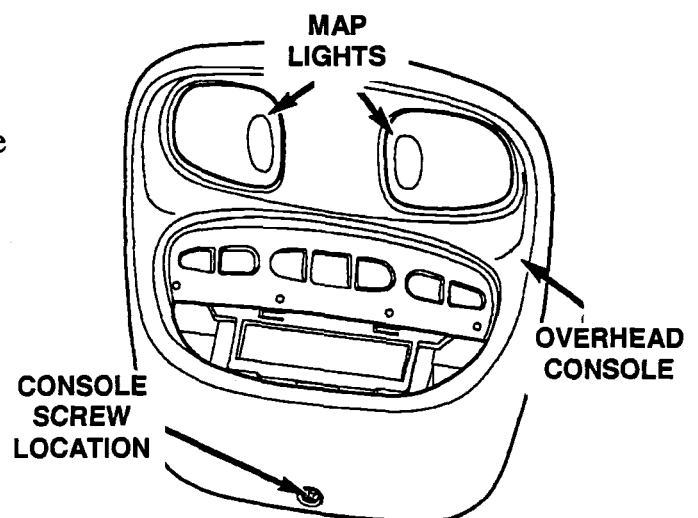

Figure 2
8. Remove the screw that secures the overhead console to the roof panel and then remove the overhead console from the headliner (Figure 2). Disconnect the console electrical connectors and set the console aside.